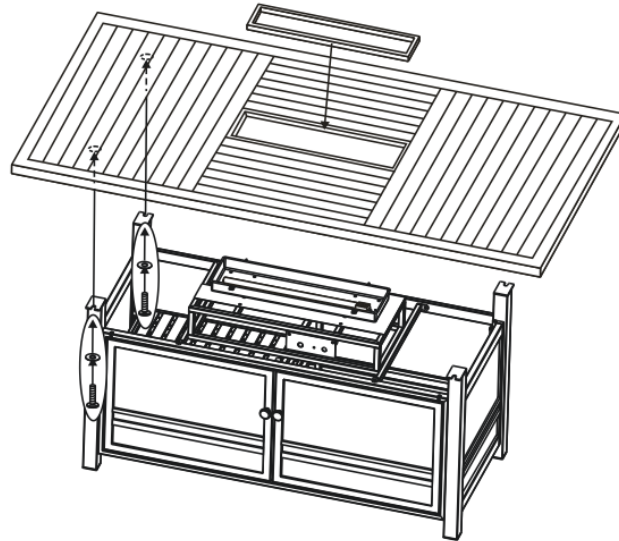

Figure 9
10. With the help of another person, Attach the table top to the complete base by using four 1/4"x20 mm bolts and washers as shown in Figure 9. Guide the bolts through the holes in the side panels, into the pre-drilled holes in the table top. Do not tighten completely. Carefully place the burner cover protective ring inside table top.